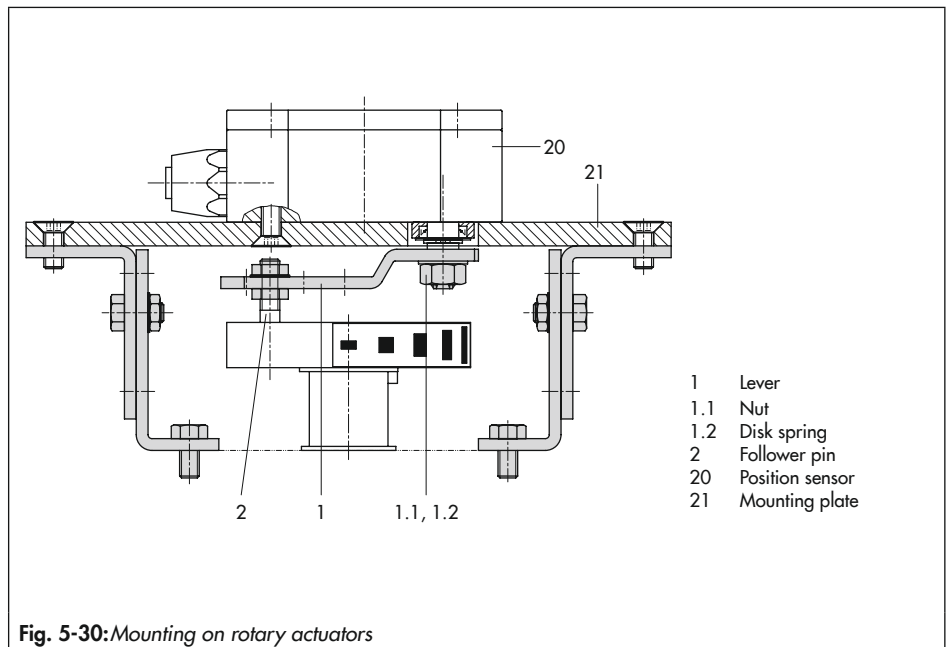

Fig. 5-30: Mounting on rotary actuators
- See Fig. 5-30.
- 1. Place the lever (1) on the position sensor in **mid-position** and **hold it in place**. Unthread the nut (1.1) and remove the lever together with the disk spring (1.2) from the sensor shaft.
- 2. Screw the position sensor (20) onto the mounting plate (21).
- 3. Replace the follower pin (2) normally attached to the lever (1) with the metal fol-